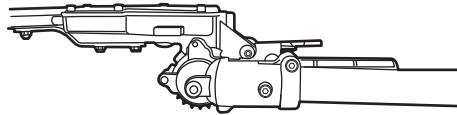

Fig. 7b
- 2). Insert the shaft and secure the connection with the bolts by using the hex key (E5). (See Fig. 7b)